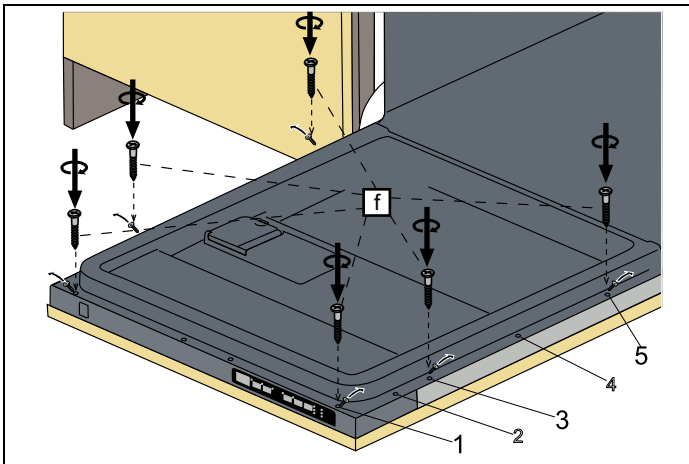

Fig. 27
6) The screws located on the wooden door are fitted to the dishwasher at the discharges located on the door outer sheet and are assembled as shown in Fig. 27.
7) As shown in Fig. 27, Screws $\text{Ø}5/32'' \times 53/32''$ ($\text{Ø}4\text{mm} \times 42.5\text{mm}$) are installed in positions I, III and V.